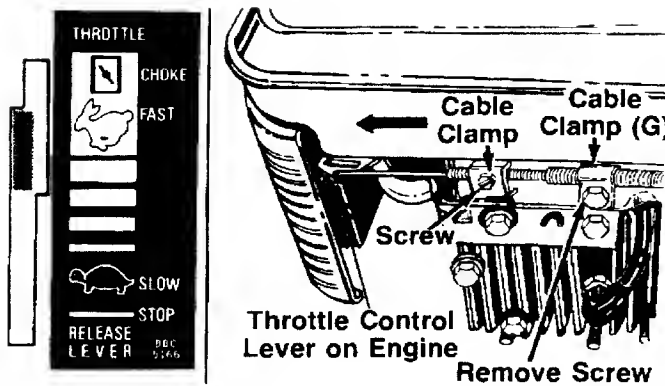
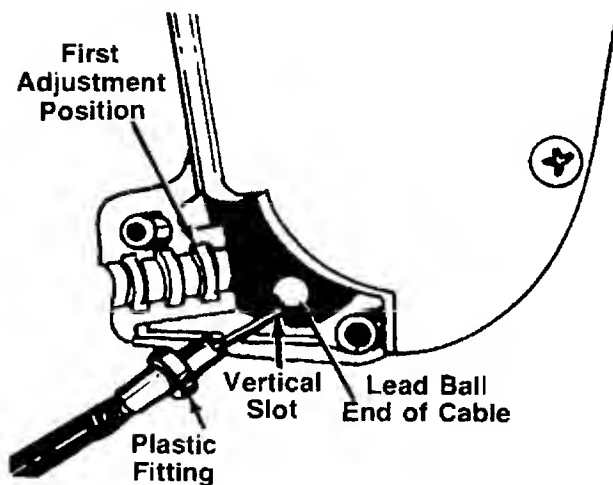

FIGURE 6A.—Briggs and Stratton Engine
FIGURE 7.
- 9A. Move throttle control lever on handle forward until it stops in FAST position. (**Do not** push all the way forward to CHOKE position.) See figure 6A.
- 11A. Using a 7/16" wrench, remove the screw on the engine shown in figure 6A. Remove the screw on the cable clamp shown in figure 6A. Slip the control casing under the clamp. Replace the screw, but do not tighten (cable must still move freely beneath the clamp).
- 12A. Slide the throttle control lever on the engine as far toward the **outside** of the engine as it will go **easily** (just until resistance is felt) as shown in figure 6A. (**Do not** force it into the extreme outside position, which is the CHOKE position). Tighten the screw to secure the throttle control cable in this position.
- 13A. Loosen the screw on the clamp on the side of the engine. Slip the cable casing under the clamp to secure the cable **away from the muffler**. Be careful not to bend or kink the cable. Tighten the screw. Secure cable casing to the front of engine with cable clamp (G) provided in hardware pack and screw removed from engine in step 11A. Do not overtighten.
a. Place the lead ball end of the cable into the fitting provided in the end of the clutch control lever. Slip the braided wire into the vertical slot as shown in figure 7.
c. Place the plastic fitting on the control cable into the first adjustment position in the clutch control housing. See figure 7.
When starting the unit for the first time, face the mower against a solid object such as a wall, fence, etc. Start the unit, and if it shows any signs of motion with the drive clutch control disengaged, shut the engine off immediately. Check the position of the drive clutch control cable. The plastic fitting must be assembled in the first adjustment position inside the housing, all the way to the right, as shown in figure 7.